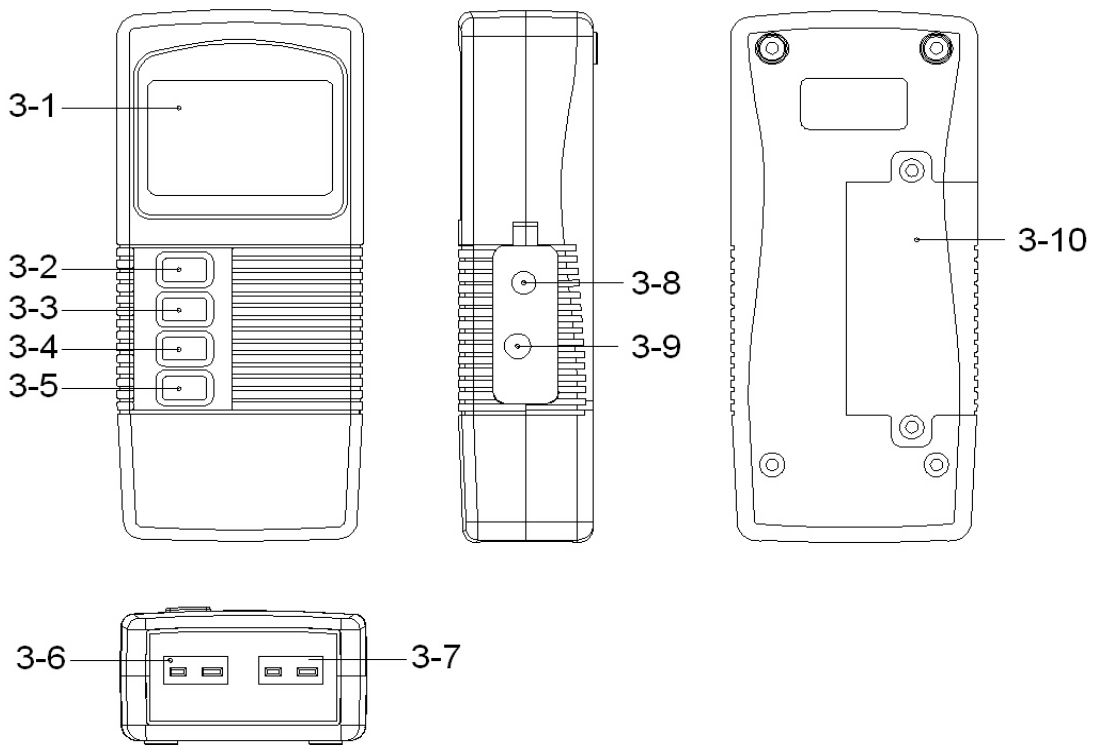

Fig. 1
- 1) Insert the " Temp. probe plug " into the " T1 probe socket " 3-6, Fig. 1).
- 2) Power on the meter by pressing the " Power button " (3-2, Fig. 1) once a while.
- 3) Press the " Function button " (3-3, Fig. 1) continuously until the LCD show the " T1- " symbol, release the finger from the button the display will show the temperature reading that sensing from the probe's head.
- 1) For two probes (dual channels) measurement, insert the first " Temp. probe plug " into the " T1 probe socket " (3-6, Fig. 1) and insert the second " Temp. probe plug " into the " T2 probe socket " (3-7, Fig. 1).
- 2) Power on the meter by pressing the " Power Button " (3-2, Fig. 1) once a while.
- 3) Press the " Function button " (3-3, Fig. 1) continuously until the LCD show the " T1 " symbol then release the finger from the button, the upper display will show the T1 temperature reading, the lower display will show the T2 temperature reading.
- 4) Press the " Function button " (3-3, Fig. 1) continuously until the LCD show the " T2 " symbol then release the finger from the button, the upper display will show the T2 temperature reading, the lower display will show the T1 temperature reading.
4) Press the " Function button " (3-3, Fig. 1) continuously until the LCD show the " T1-T2 " symbol then release the finger from the button, the upper display will show the T1-T2 temperature reading, the lower display will show the T1 temperature reading.
During the measurement, press the " Hold Button " (3-3, Fig. 1) once will hold the measured value & the LCD will display a " HOLD " symbol.
* The data record function records the maximum and minimum readings. Press the " REC Button " (3-4, Fig. 1) once to start the Data Record function and there will be a " REC " symbol on the display.
- a) Press the " REC Button " (3-4, Fig. 1) once, the " REC MAX " symbol along with the maximum value will appear on the display.
If intend to delete the maximum value, just press the " Hold button " (3-3, Fig. 1) once, the display will show the " REC " symbol only & execute the memory function continuously.
- b) Press the " REC button " (3-4, Fig. 1) again, the " REC. MIN. " symbol along with the minimum value will appear on the display.
If intend to delete the minimum value, just press the " Hold button " (3-3, Fig. 1) once, then the display will show the " REC " symbol only & execute the memory function continuously.
- a) Press the " REC Button " (3-4, Fig. 1) once to start the Data Record function and there will be a " REC " symbol on the display.
Press the " Logger button " (3-5, Fig. 1) once to start the Data Logger function. The REC symbol will flash per sample time period and save the data into the memory. Now the Date Logger function is executed.
Press the " Logger Button " (3-6, Fig. 1) once will save the data one time into the memory, at the same time the symbol " REC " will flash once a while.
c) During the Data Logger function is executed, press the " Logger Button " (3-5, Fig. 1) once will stop the data logger function, the " REC " symbol will stop to flash.
If press the " Logger Button " (3-5, Fig. 1) once again will continuous the Data Logger function.
- a. Hold the " Setting Button " (3-5, Fig. 1) at least five seconds will enter the Advanced Setting Procedures.
- b. One by one to press the " Setting Button " (3-5, Fig. 1) once a while to select the seven main function and show the text the lower display as :
- a. Use " ▲ button " (3-3, Fig. 1) to select " K " or " J ".
- b. After select the desiring value (K or J), press the " Enter button " (3-4, Fig. 1) to save the data with default.
- a. Use " ▲ button " (3-3, Fig. 1) to select " °C " or " °F ".
- b. After select the desiring value (°C or °F), press the " Enter button " (3-4, Fig. 1) to save the data with default.
- a. Use " ▲ button " (3-3, Fig. 1) to select " YES " or " no " .
- b. After select the desiring function (YES or no), press the " Enter button " (3-4, Fig. 1) to save the function with default.
- a. Use " ▲ button " (3-3, Fig. 1) to select data logger sampling time to
- b. After the sampling time value is determined, press the " Enter button " (3-4, Fig. 1) to save the sampling time with default.
a. Use " ▲ button " (3-3, Fig. 1) to select " YES " or " no " .